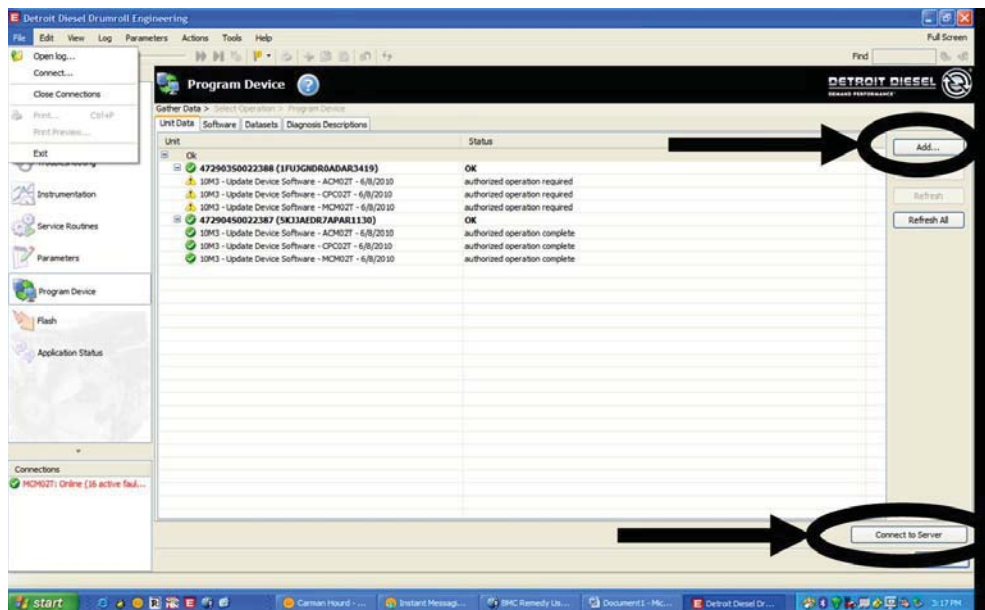

Figure 2 – Adding Engine Serial Number And Connecting To Server
8. Select the “Add” button in the upper right corner of the DiagnosticLink® screen and enter the engine serial number. Then click the “Connect to Server” button in the bottom right corner of the DiagnosticLink® screen. See Figure 2.